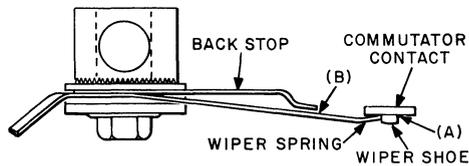

Fig. 6 — Clearance Between Back Stop and Wiper Spring and Position of Wiper Shoe on Commutator Contact
(a) **Fig. 6(A):** With the switch shaft at vertical normal, the wiper shoe shall rest approximately flat against the associated commutator contact with its tip edge touching. In no case shall only the heel of the shoe touch the contact.
2.18 Clearance Between Back Stop and Wiper Spring: Fig. 6(B) —